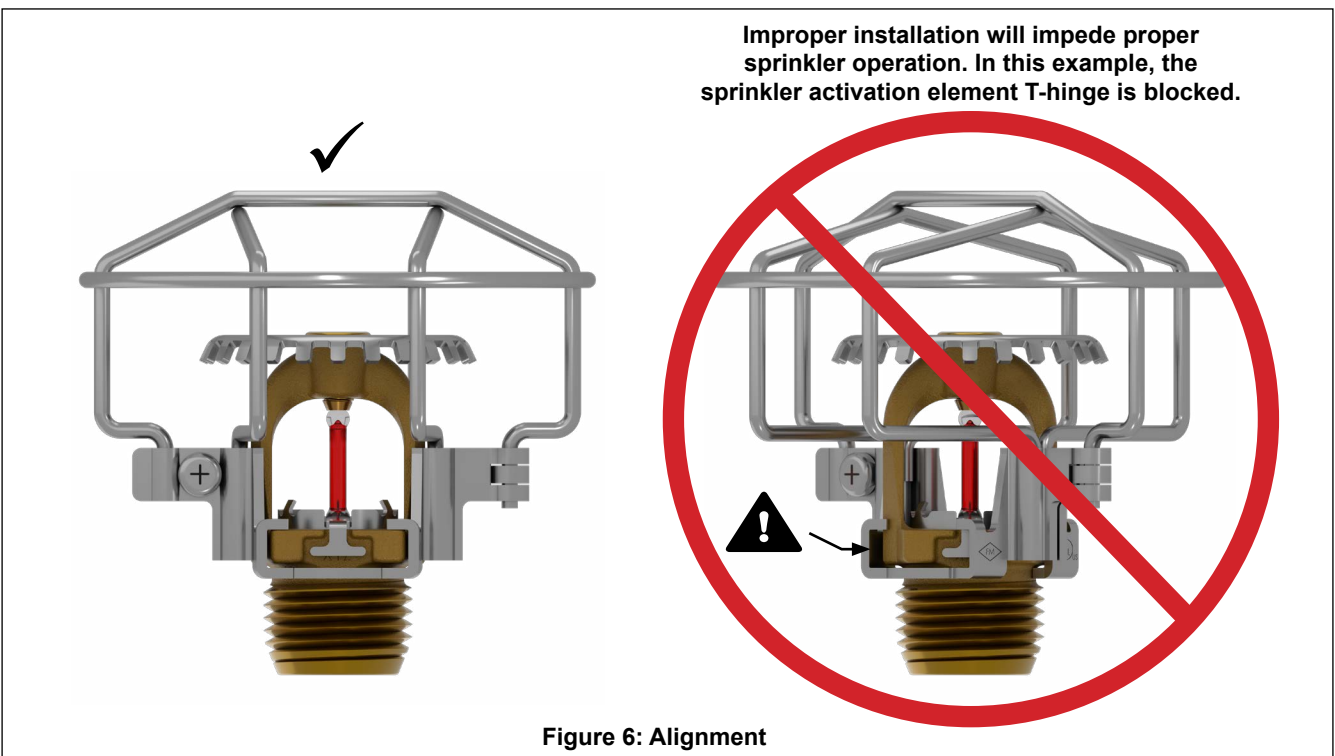

Figure 6: Alignment
5. Verify that the guard is properly oriented on the sprinkler (see Figure 6) then, close the guard and tighten the screw.